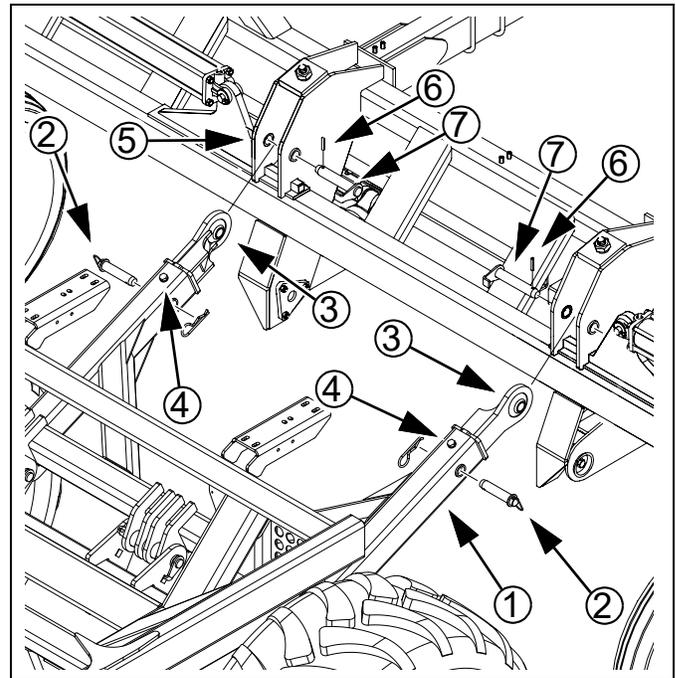

Figure 5
**Refer to Figure 5,** which, for clarity, depicts the air cart without the rear hopper
1. Use a line (not shown), from the cart walkboard, to tie the cart links ① up to the height of the lug holes ⑤ in the implement.
2. Remove the pins ② near the ball swivel links ③ of the arms, allowing the arms to telescope. Do not remove the stop bolts ④.
3. Drive the roll pins ⑥ out of the lug pins ⑦ and remove the lug pins.
4. Have a tractor slowly guide the cart backwards until the link arm ball swivels are within two feet (61 cm) of the lug holes ⑤ in the implement. Set tractor brake.
5. Manually extend each arm's ball swivel ③ into alignment with the implement pivot holes ⑤. Insert and secure the lug pins ⑦ on the implement.
6. Release tractor brakes, and slowly back the tractor up until the arm pins may ② be reinserted. Secure them with clips.
2. Drive the roll pins ② out of the lug pins ③ and remove the lug pins.
3. Have a tractor slowly guide the cart backwards until the link arm ball swivels ④ are aligned with lug holes ⑤ in the implement. Set tractor brake.
4. Insert and secure the lug pins ③ on the implement.